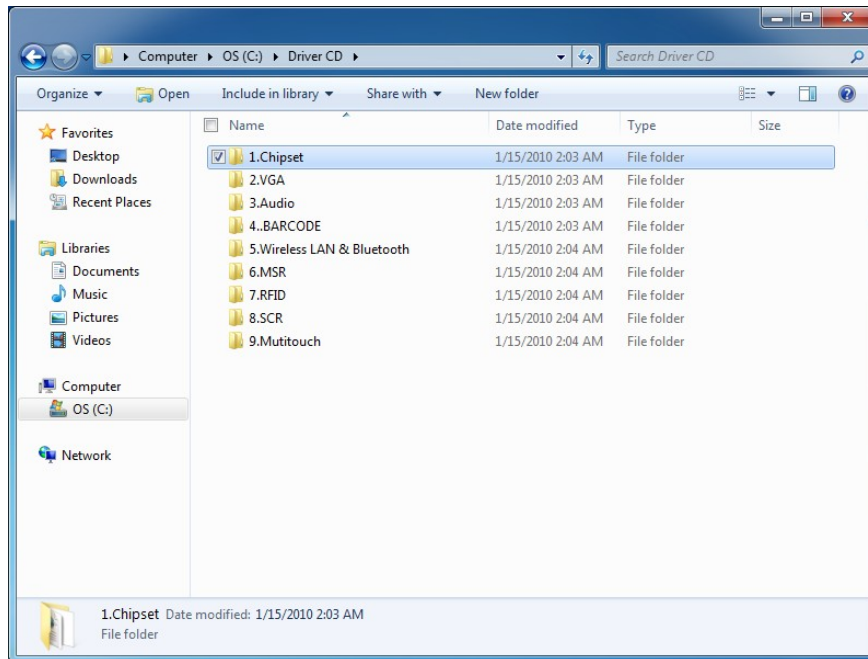

Figure 4-1: Chipset Driver Location
Step 1: Select **1.Chipset** from the list of the driver CD shown in Figure 4-1.